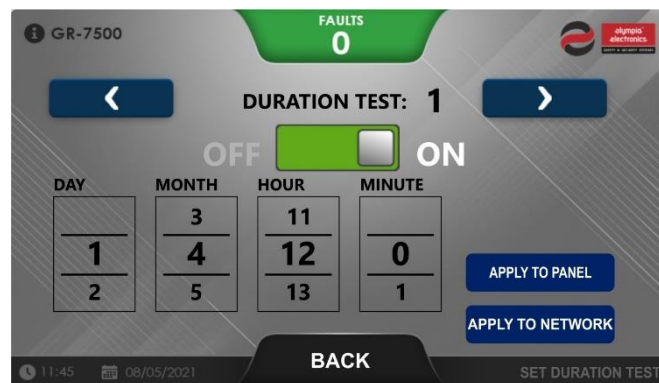

Figure 32
The indicator appears (Figure 32, ref 1) when the scheduled annual check of the panel, has not been performed on the due date. This option can be enabled/disabled and configured in the **5.4.4 ANNUAL CHECK WARNING** menu.